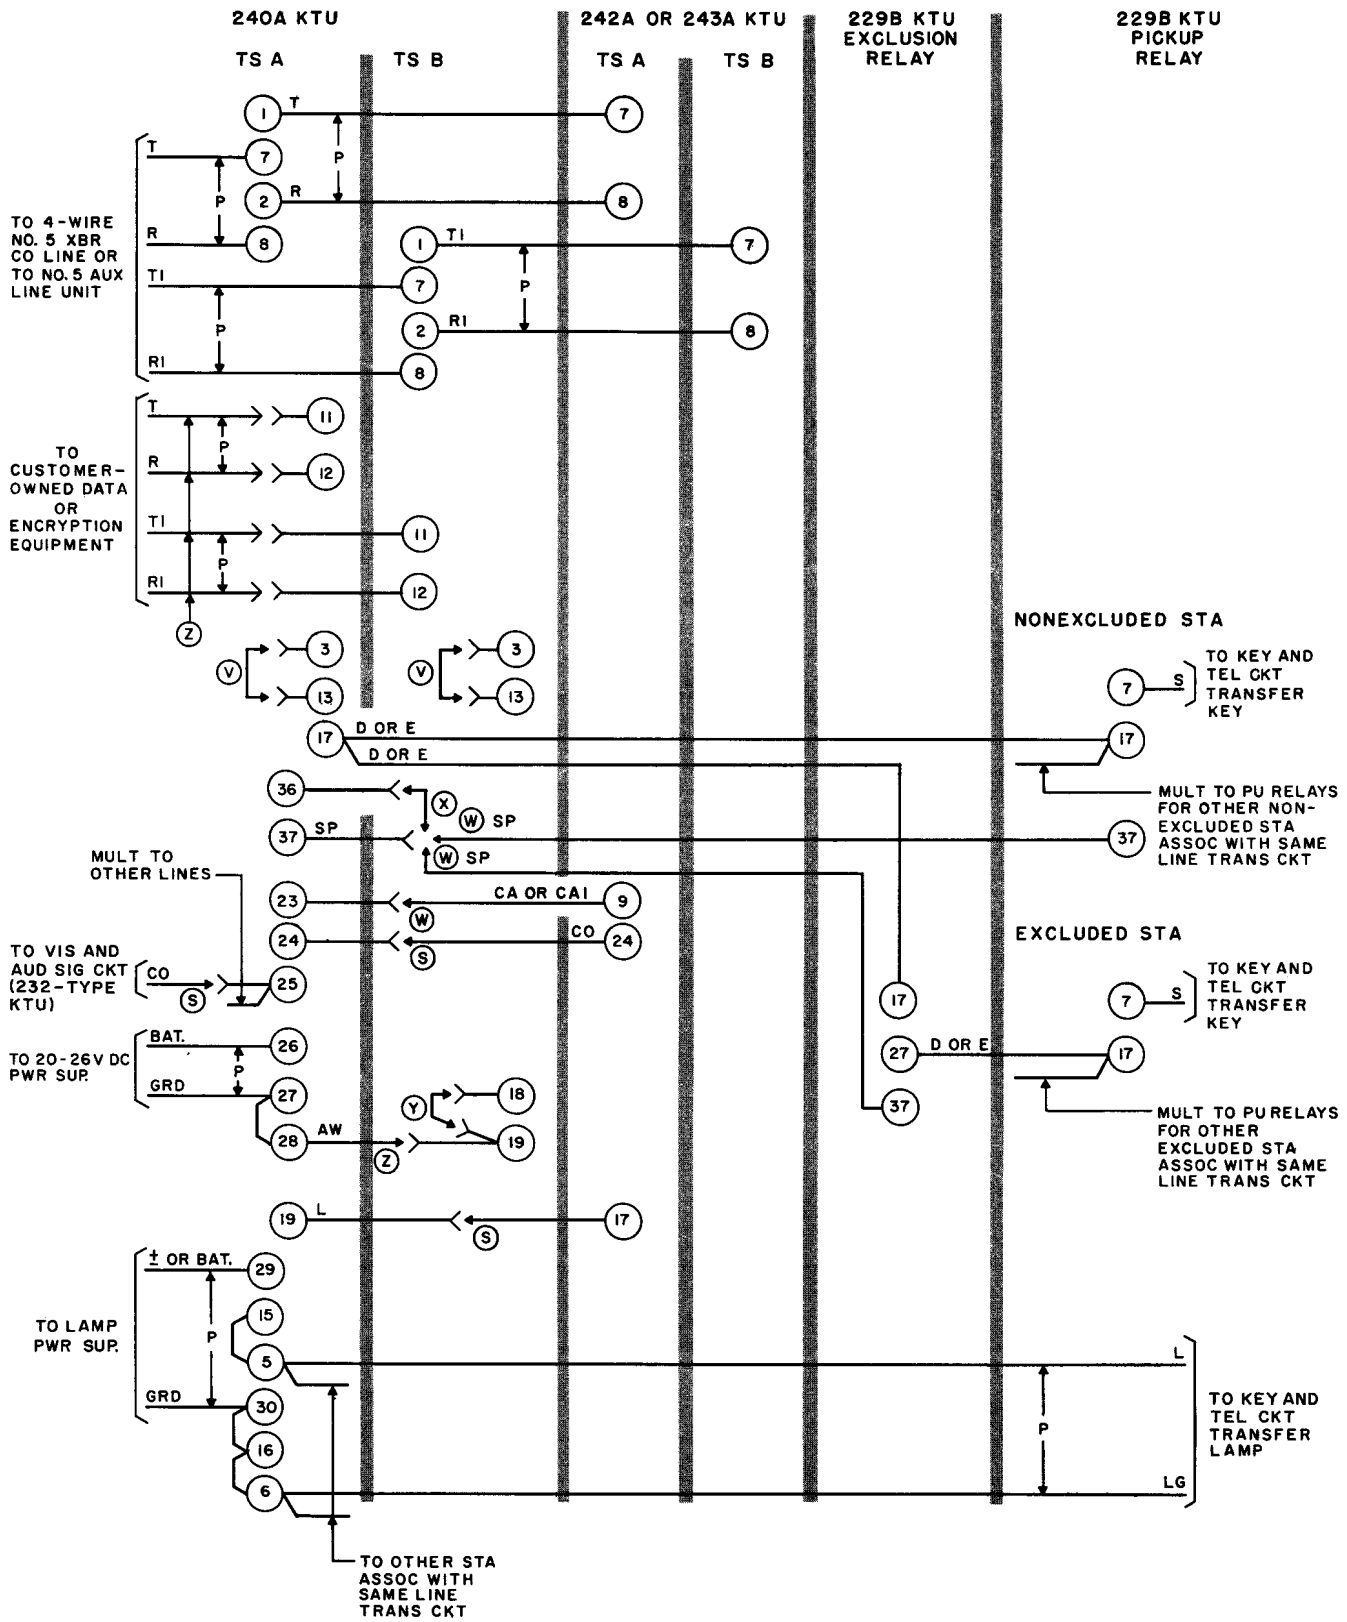

Fig. 5 - Connections for Line Transfer Circuit
- Fig. 5 - Connections for Line Transfer Circuit